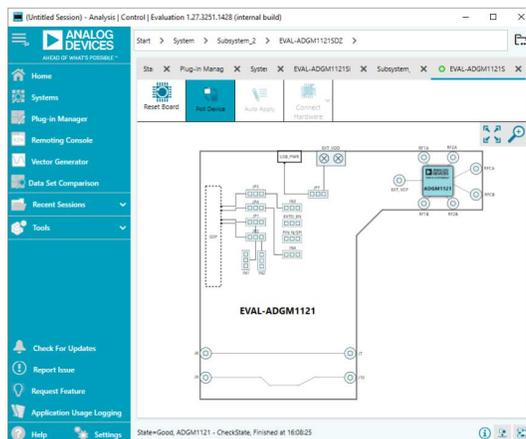
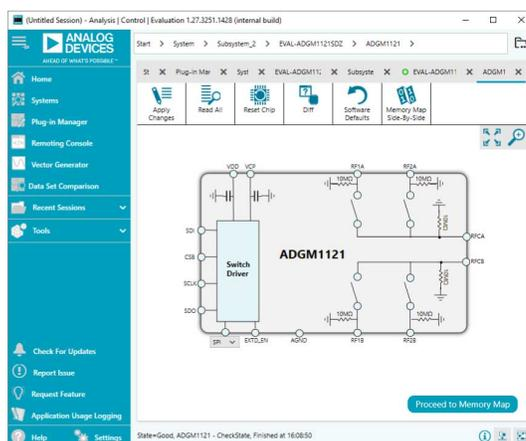

Figure 3. Evaluation Board View of the EVAL-ADGM1121SDZ
Figure 4. Chip Block Diagram View for the ADGM1121
6. Double-click the EVAL-ADGM1121SDZ plugins to open the evaluation board view in Figure 3.
7. The chip block diagram can be accessed by double-clicking the ADGM1121 chip (see Figure 3). The view after clicking the ADGM1121 chip provides a basic representation of the functionality of the EVAL-ADGM1121SDZ. The main functions are labeled in Figure 4.